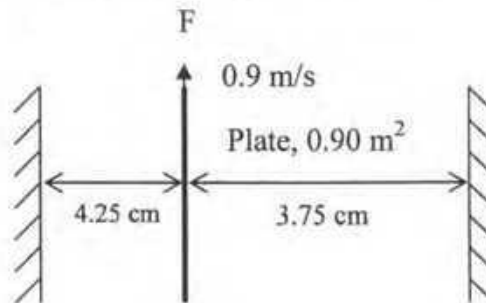

Figure 1
- b. A space of 8.0 cm between two large plane surfaces is filled with glycerine as shown in Figure 1. Determine the force (F) required to drag vertically a very thin plate 0.90 m^2 in area between the plane surfaces at a constant speed of 0.9 m/s , if the plate is at a distance of 4.25 cm from one of the surfaces. Take dynamic viscosity $0.06 \text{ N}\cdot\text{s}/\text{m}^2$ and weight of the plate 5 N . 9